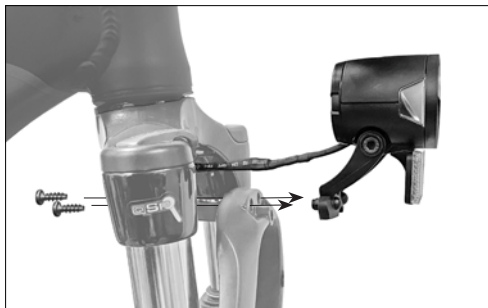

Fig. 13: Install the front light.
2. Slide the light into the mounting area on the fork arch, and insert the mounting screws into the holes on the back side. Turn clockwise to tighten (Fig. 13).